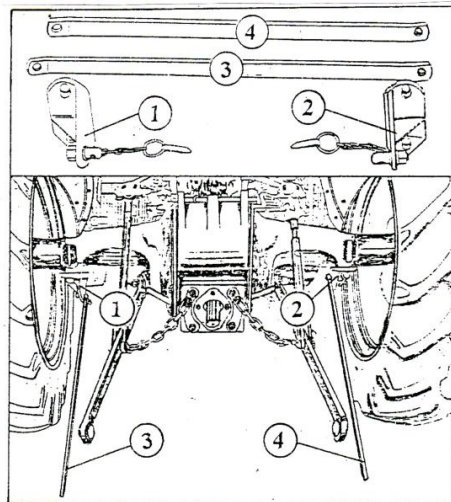
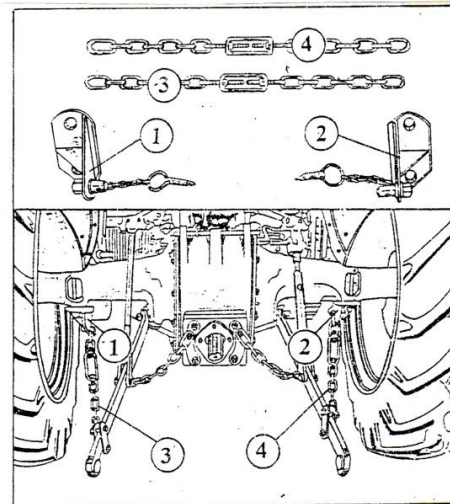

Figure 2. Placement of stabilizer bars
Figure 3. Placement of stabilizer chains
- a) Mandatory when working with small items, it is necessary to use stabilizer bars (figure 2) or stabilizer chains (figure 3). Attaching the stabilizer bars to the tractor is done as follows (see figure 2).
- b) Fasten the left support of the stabilizer bar (fig. 2, pos. 1) under the housing of the left rear half-axle, and the right one under the housing of the right rear half-axle of the tractor (fig. 2, pos. 2), by means of screws.
2. If your tractor is equipped with stabilizer chains, the installation procedure is shown in Figure 3, the installation sequence is the same as for the installation of stabilizer bars (see under point 2).